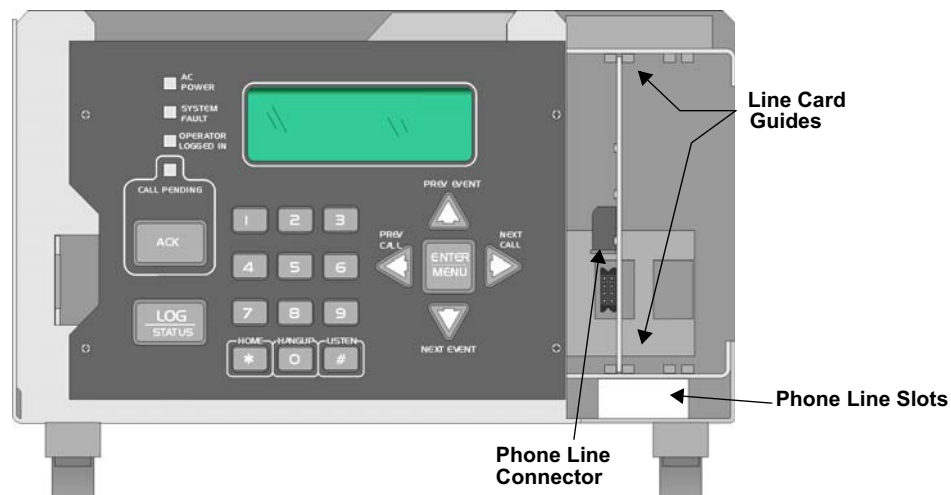

Figure 3-5 Line Card Locations
3. When the cover removed, you will see that there are 2 slots for line cards. The receiver recognizes each slot by number 1 and 2 (slot one is closest to the keypad and display). It is not necessary to put line cards in numbered order because the receiver continually polls each slot to see if existing line cards are functioning and if it is still in its slot. The receiver also looks to see if a new line card has been added. Figure 3-5 shows how to position each line card for installation.
5. Carefully slide the line card into its guides (both top and bottom) until it fits into its connector at the back of the receiver. Gently push the line card as far into the connector as you can. The line card is now in place. See Figure 3-5.
4. Unplug the telephone line. (See Figure 3-5 and Figure 3-6.)
2. From the back side of the receiver insert the telephone line through the corresponding slot for the desired line card. (See Figure 3-5 and Figure 3-6 for phone line slot locations.)
4. Plug the RJ-11 phone connector into the connector on the line card. (See Figure 3-5 and Figure 3-6.)